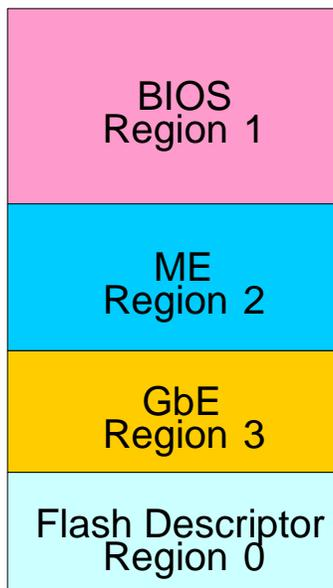

Figure 10. LAN NVM Regions
The LAN NVM shares space on an SPI Flash device (or devices) along with the BIOS, Manageability Firmware, and a Flash Descriptor Region. It is programmed through the Intel® 5 Series Express Chipset. This combined image is shown in Figure 10. The Flash Descriptor Region is used to define vendor specific information and the location, allocated space, and read and write permissions for each region. The Manageability (ME) Region contains the code and configuration data for ME functions such as Intel® Active Management Technology. The system BIOS is contained in the BIOS Region. The ME Region and BIOS Region are beyond the scope of this document and a more detailed explanation of these areas can be found in the *Intel® 5 Series Express Chipset Family External Design Specification (Intel® 5 Series Express Chipset EDS)*. This document describes the LAN image contained in the Gigabit Ethernet (GbE) region.